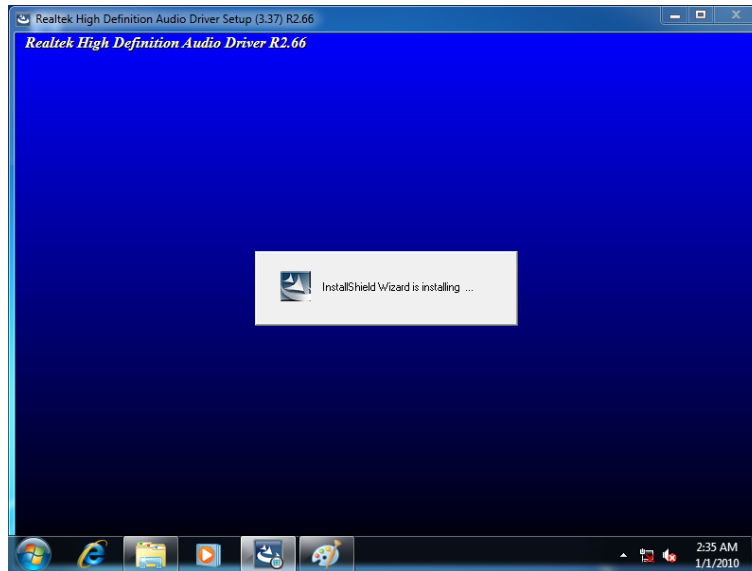

Figure 6-17: Audio Driver Installation
Step 7: The program begins to install. See **Figure 6-17**.